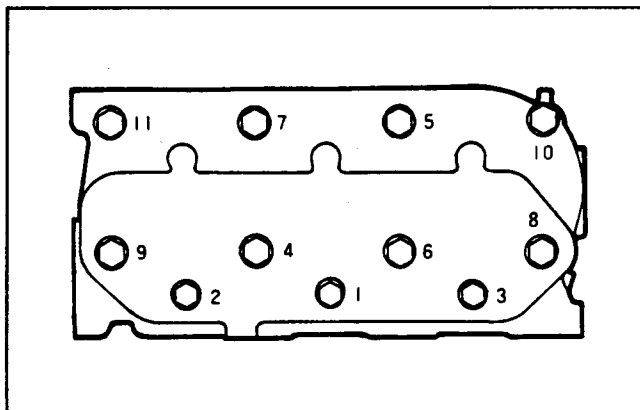

Figure 81
9. Tighten the cylinder head bolts in the order shown in Figure 81. Tighten the bolts to approximately one-third the specified torque, then two-thirds and finally to the final specified torque.